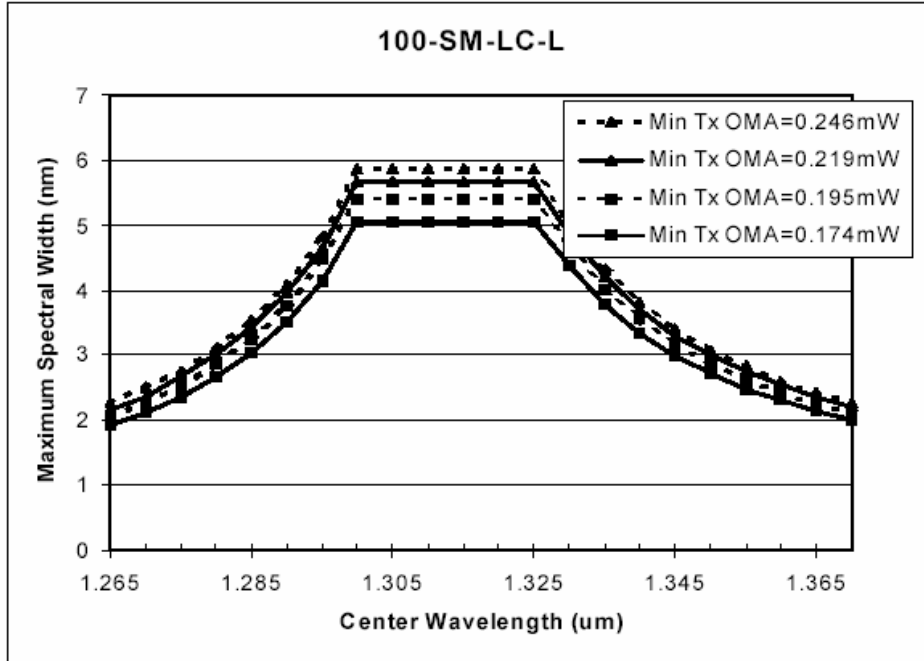
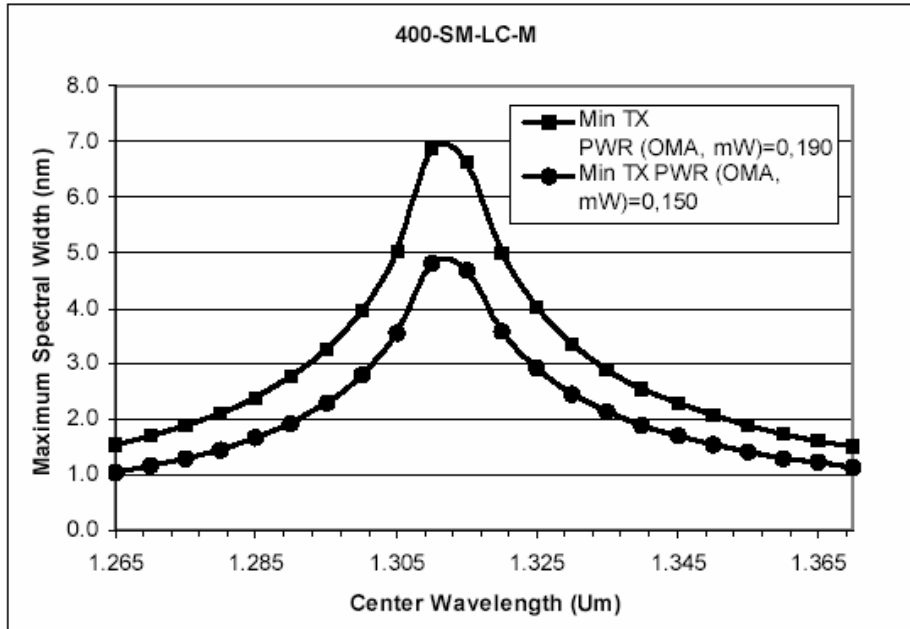

Figure 1 - 1,06 GBd SM 10 km link
Figure 3 - 4,25 GBd SM 4 km link
2. Trade-offs are available between spectral center wavelength, RMS spectral width, and minimum optical modulation amplitude. See figure 1 to figure 3 below